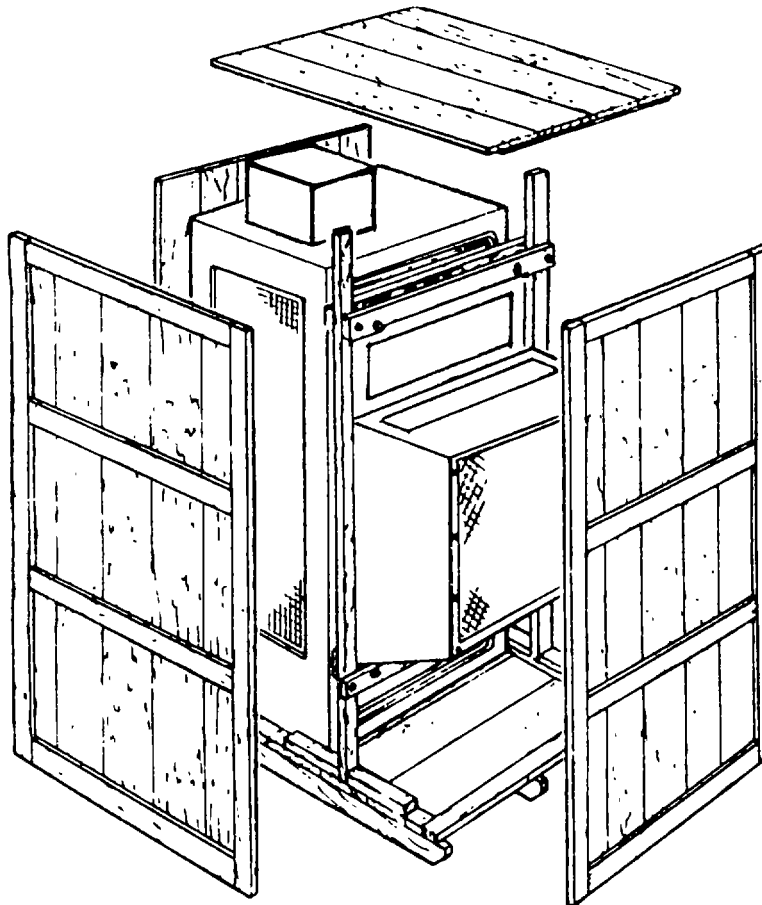

Figure 4-1. Unpacking Refrigeration Unit
a. Unloading. The refrigeration unit is shipped in a crate which has a skid pallet base (fig. 4-1). It should be handled with fork lift equipment, but may be handled by crane and sling. Reasonable precaution should be taken to prevent damage by dropping or bumping.
b. Unpacking. The refrigeration unit (fig. 4-1) is secured in the shipping crate by two uprights with two horizontal bars and is supported by a skid base. First remove the crate top, then the four side panels. Remove the four bolts securing the uprights to the unit. Refer to para 44 for installation and setting up instructions.
(1) Inspection.